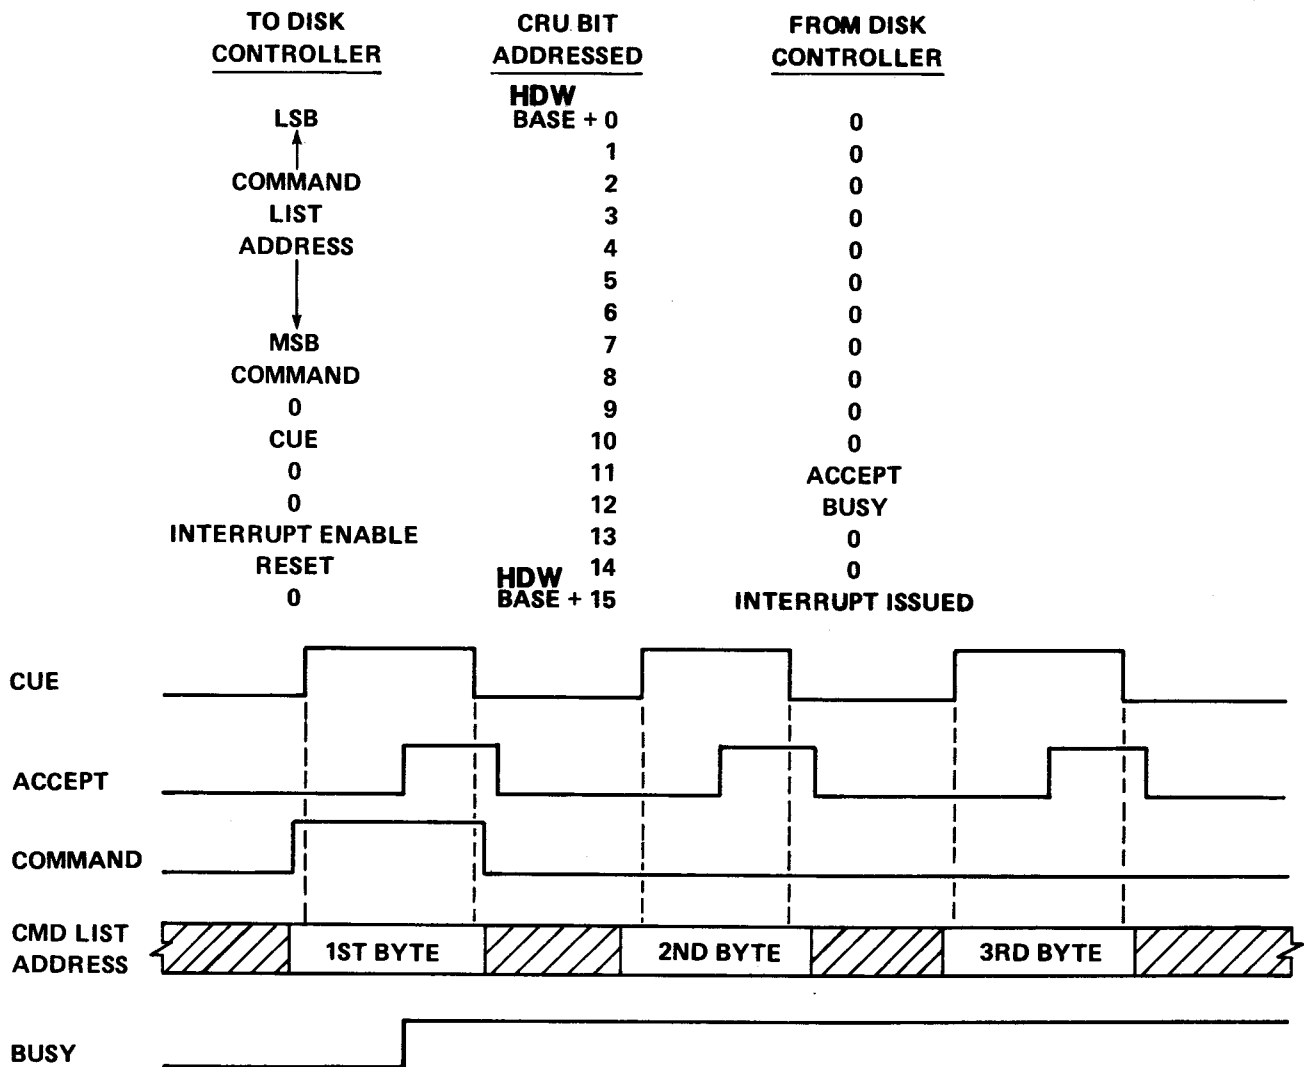

FIGURE 3-2. CRU INTERFACE AND TIMING
Figure 3-2 shows the signals, signal timing, and data bits that are output to and input from the disk controller over the CRU.
1. In Figure 3-2, a software base address of 210_{16} is used (hardware base address 108_{16} as shown in the 32-bit CRU block in Figure 3-3). The middle 16 bits of the 32-bit CRU address block are used; the first and last 8 bits are reserved.